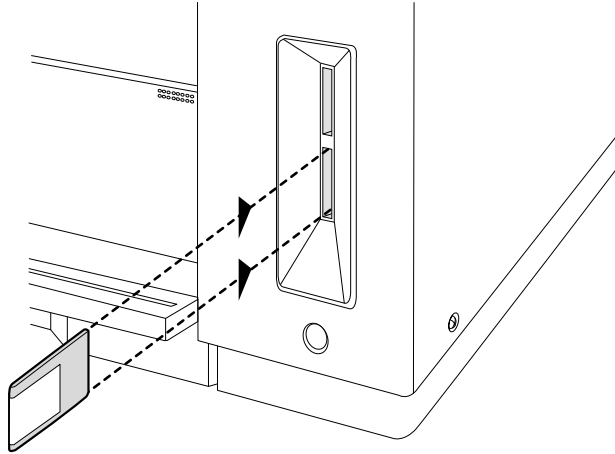

Fig. 8.10 *Insert the Font or Emulation Card*
2. Insert the card into either slot (fig. 8.10) with the front label side facing left toward the inside of the printer.